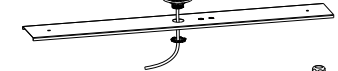
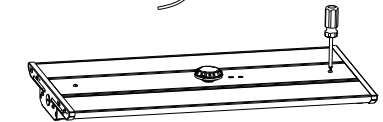

Figure 13
Figure 14
- Step2. Knock off the knockout on the cover, install the sensor on the cover(Figure 13), and connect the wiring according to the wiring instructions.Step3.Assemble the cover back onto the fixture (Figure 14) After the fixture is light on, use the remote control to adjust the working mode of the sensor as per your need.